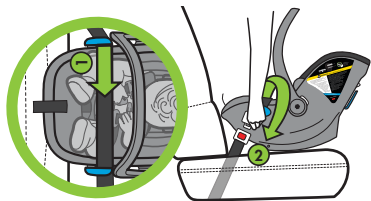

Figure 67
- Route the lap belt through both blue UAS/Lap Belt Guides (1) and buckle vehicle belt (2), as shown in **Figure 67**.